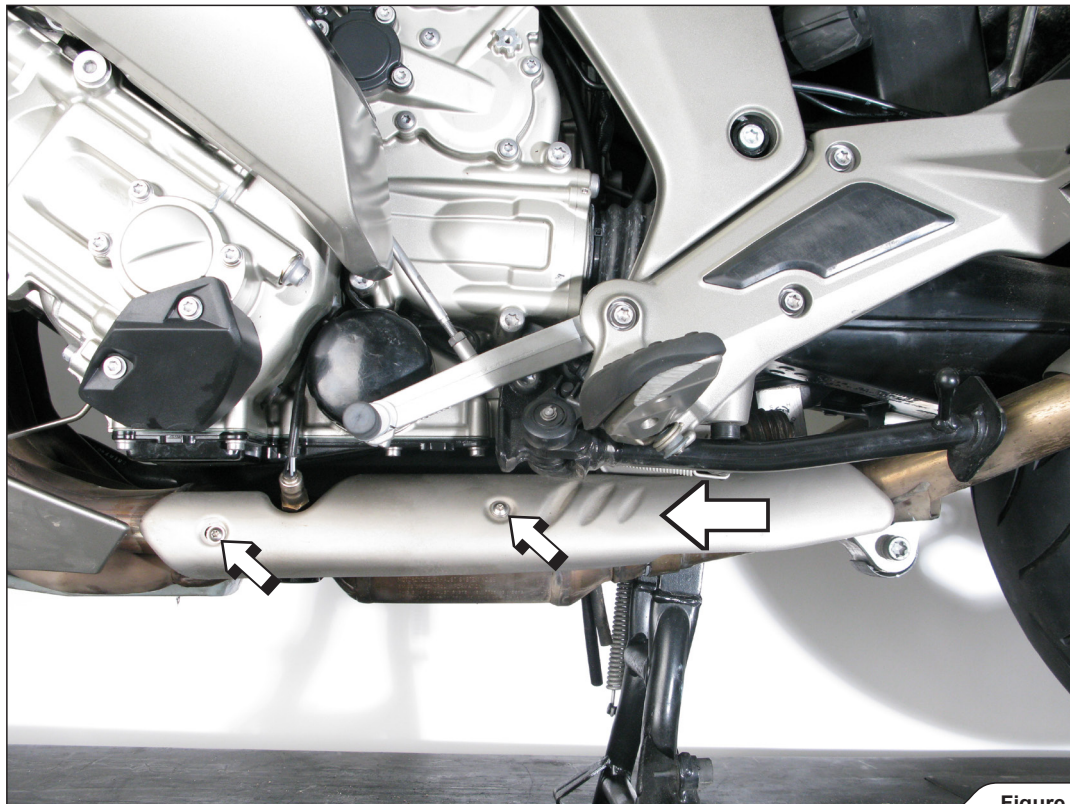

Figure 1
2. Unscrew the marked bolts and slide the original heat shields in marked directions, off the motorcycle (**Figure 1, 2**).